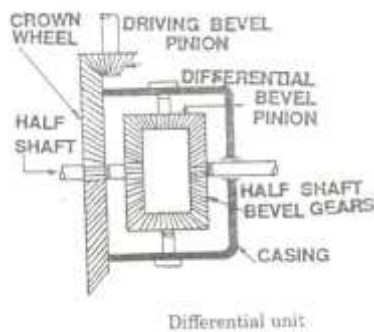

Fig.13. Tractor differential unit
5.1.4 Differential Differential unit (Fig.13) is a special arrangement of gears to permit one of the rear wheels of the tractor to rotate slower or faster than other. While turning the tractor on a curve path, the inner wheel has to travel lesser distance than the outer wheel. The inner wheel requires lesser power than the outer wheel, this condition is fulfilled by differential unit, which permits one of the rear wheels of the tractor to move faster than the other at the turning point.